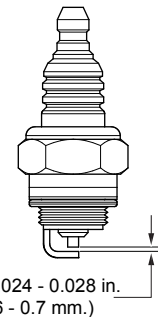

Figure 27. Spark PLug Gap
- Remove and clean the spark plug (Figure 27), then adjust the spark gap to 0.024 ~0.028 inch (0.6~0.7 mm). This unit has electronic ignition, which requires no adjustments.